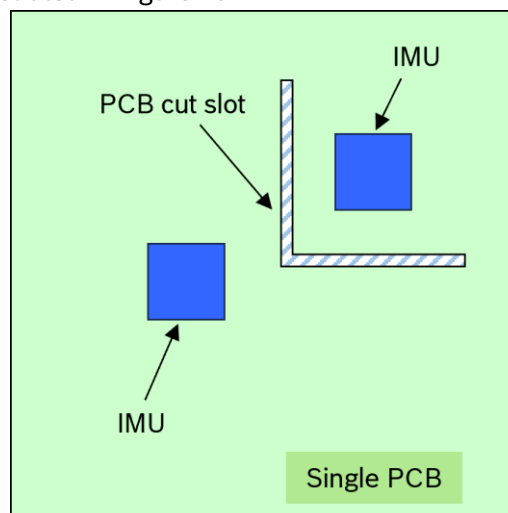

Figure 13: PCB cut slot for multiple IMUs on the same PCB
- Mechanically isolate IMUs from each other to break the vibration transmission path. Cutting PCB slots is a recommended method, as illustrated in Figure 13.